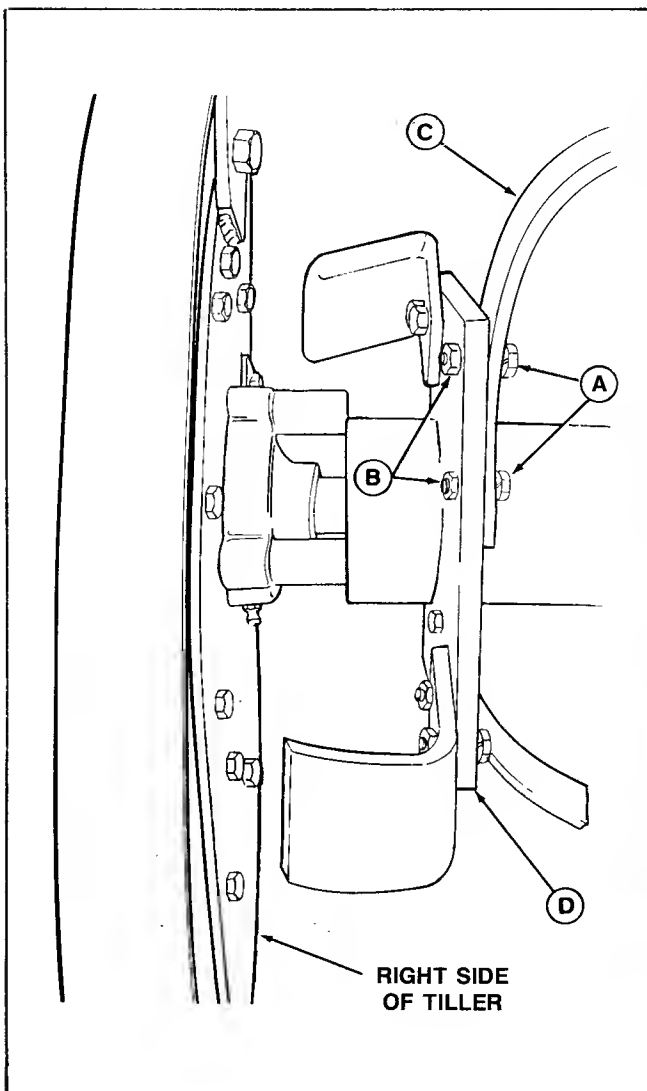

Figure 20. Tine Replacement
1. Remove two capscrews (A, Figure 20) and locknuts (B).
2. Remove old tine (C) from tiller.
3. Place new tine on mounting plate (D). When facing front of tiller, be sure tine curves away from mounting plate with its sharp edge facing rearward when tine nears bottom of travel.
4. Insert two capscrews (A) through tine and then through mounting plate. Install and tighten locknuts (B) to a torque of 30 foot-pounds (40 N.m).